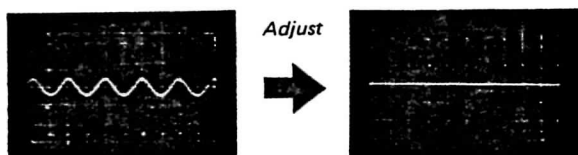

Fig. 3-6. Fm discriminator alignment output response
4. If the discriminator transformer IFT102 (See Fig. 3-13) is not aligned correctly, 400 Hz ripple will be observed as shown in Fig. 3-6.
5. Turn the secondary side core (green) of discriminator transformer IFT102 (See Fig. 3-13) with an alignment tool to obtain a minimum indication on the oscilloscope as shown in Fig. 3-6.